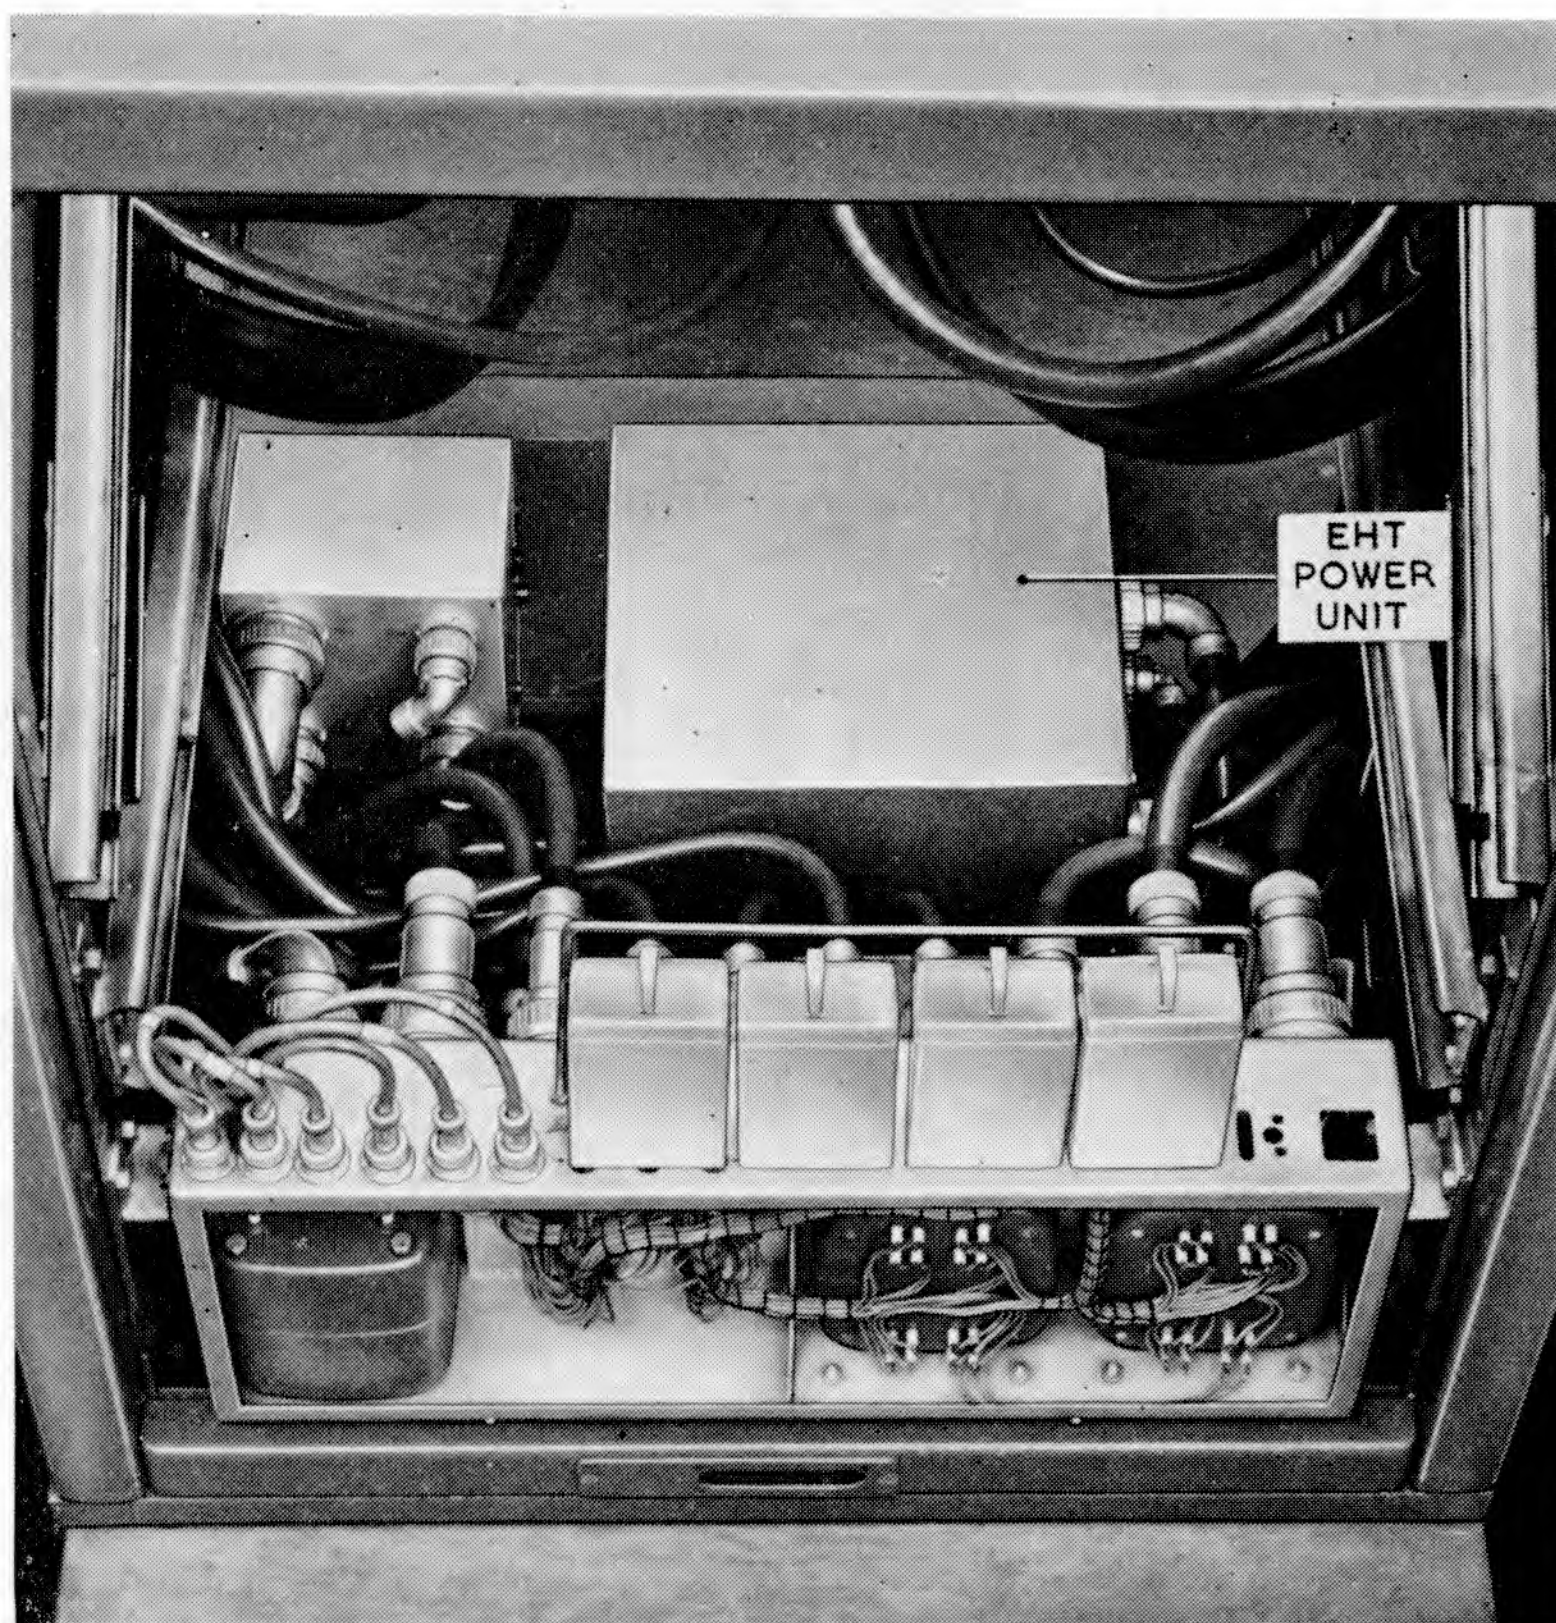
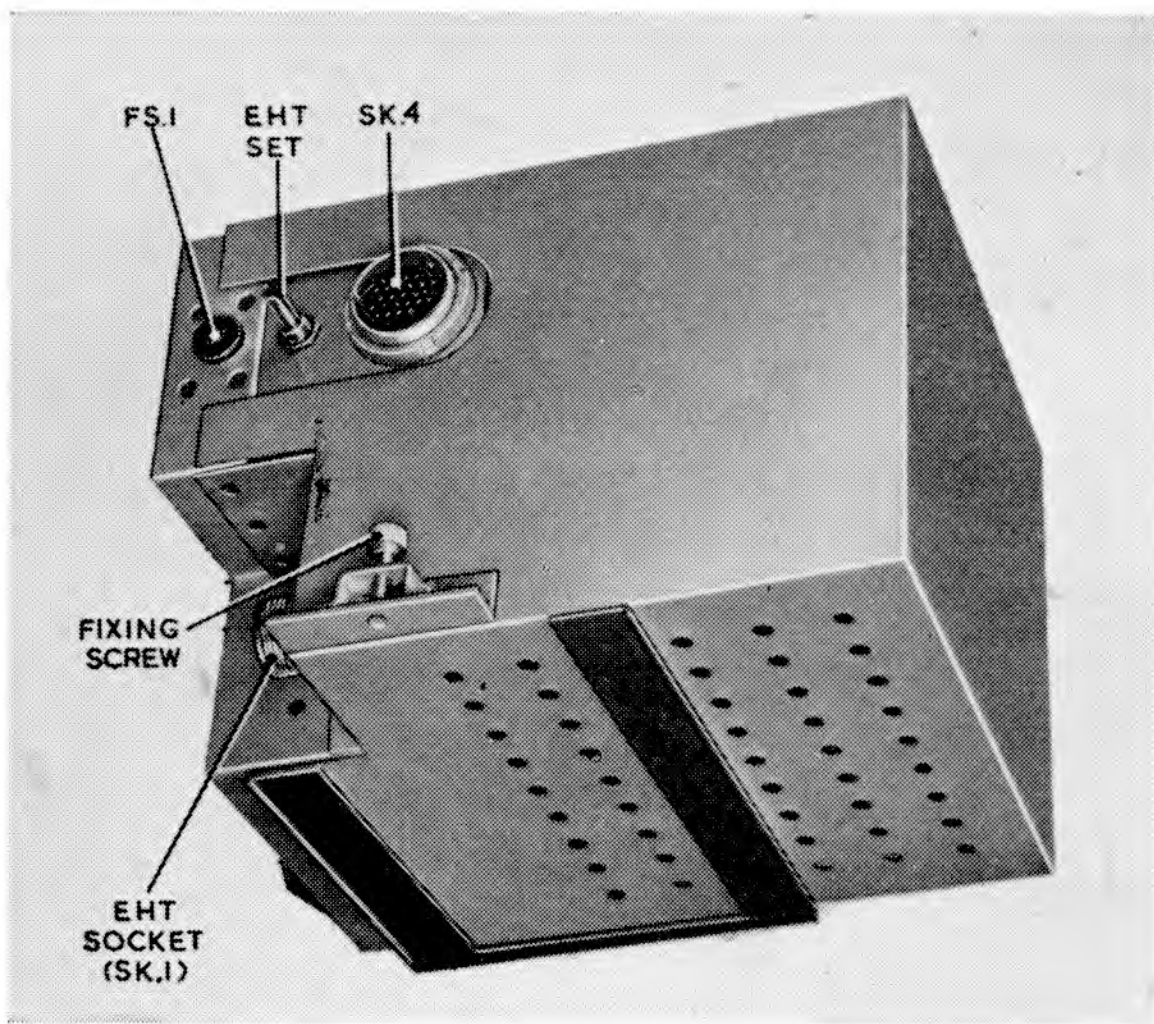
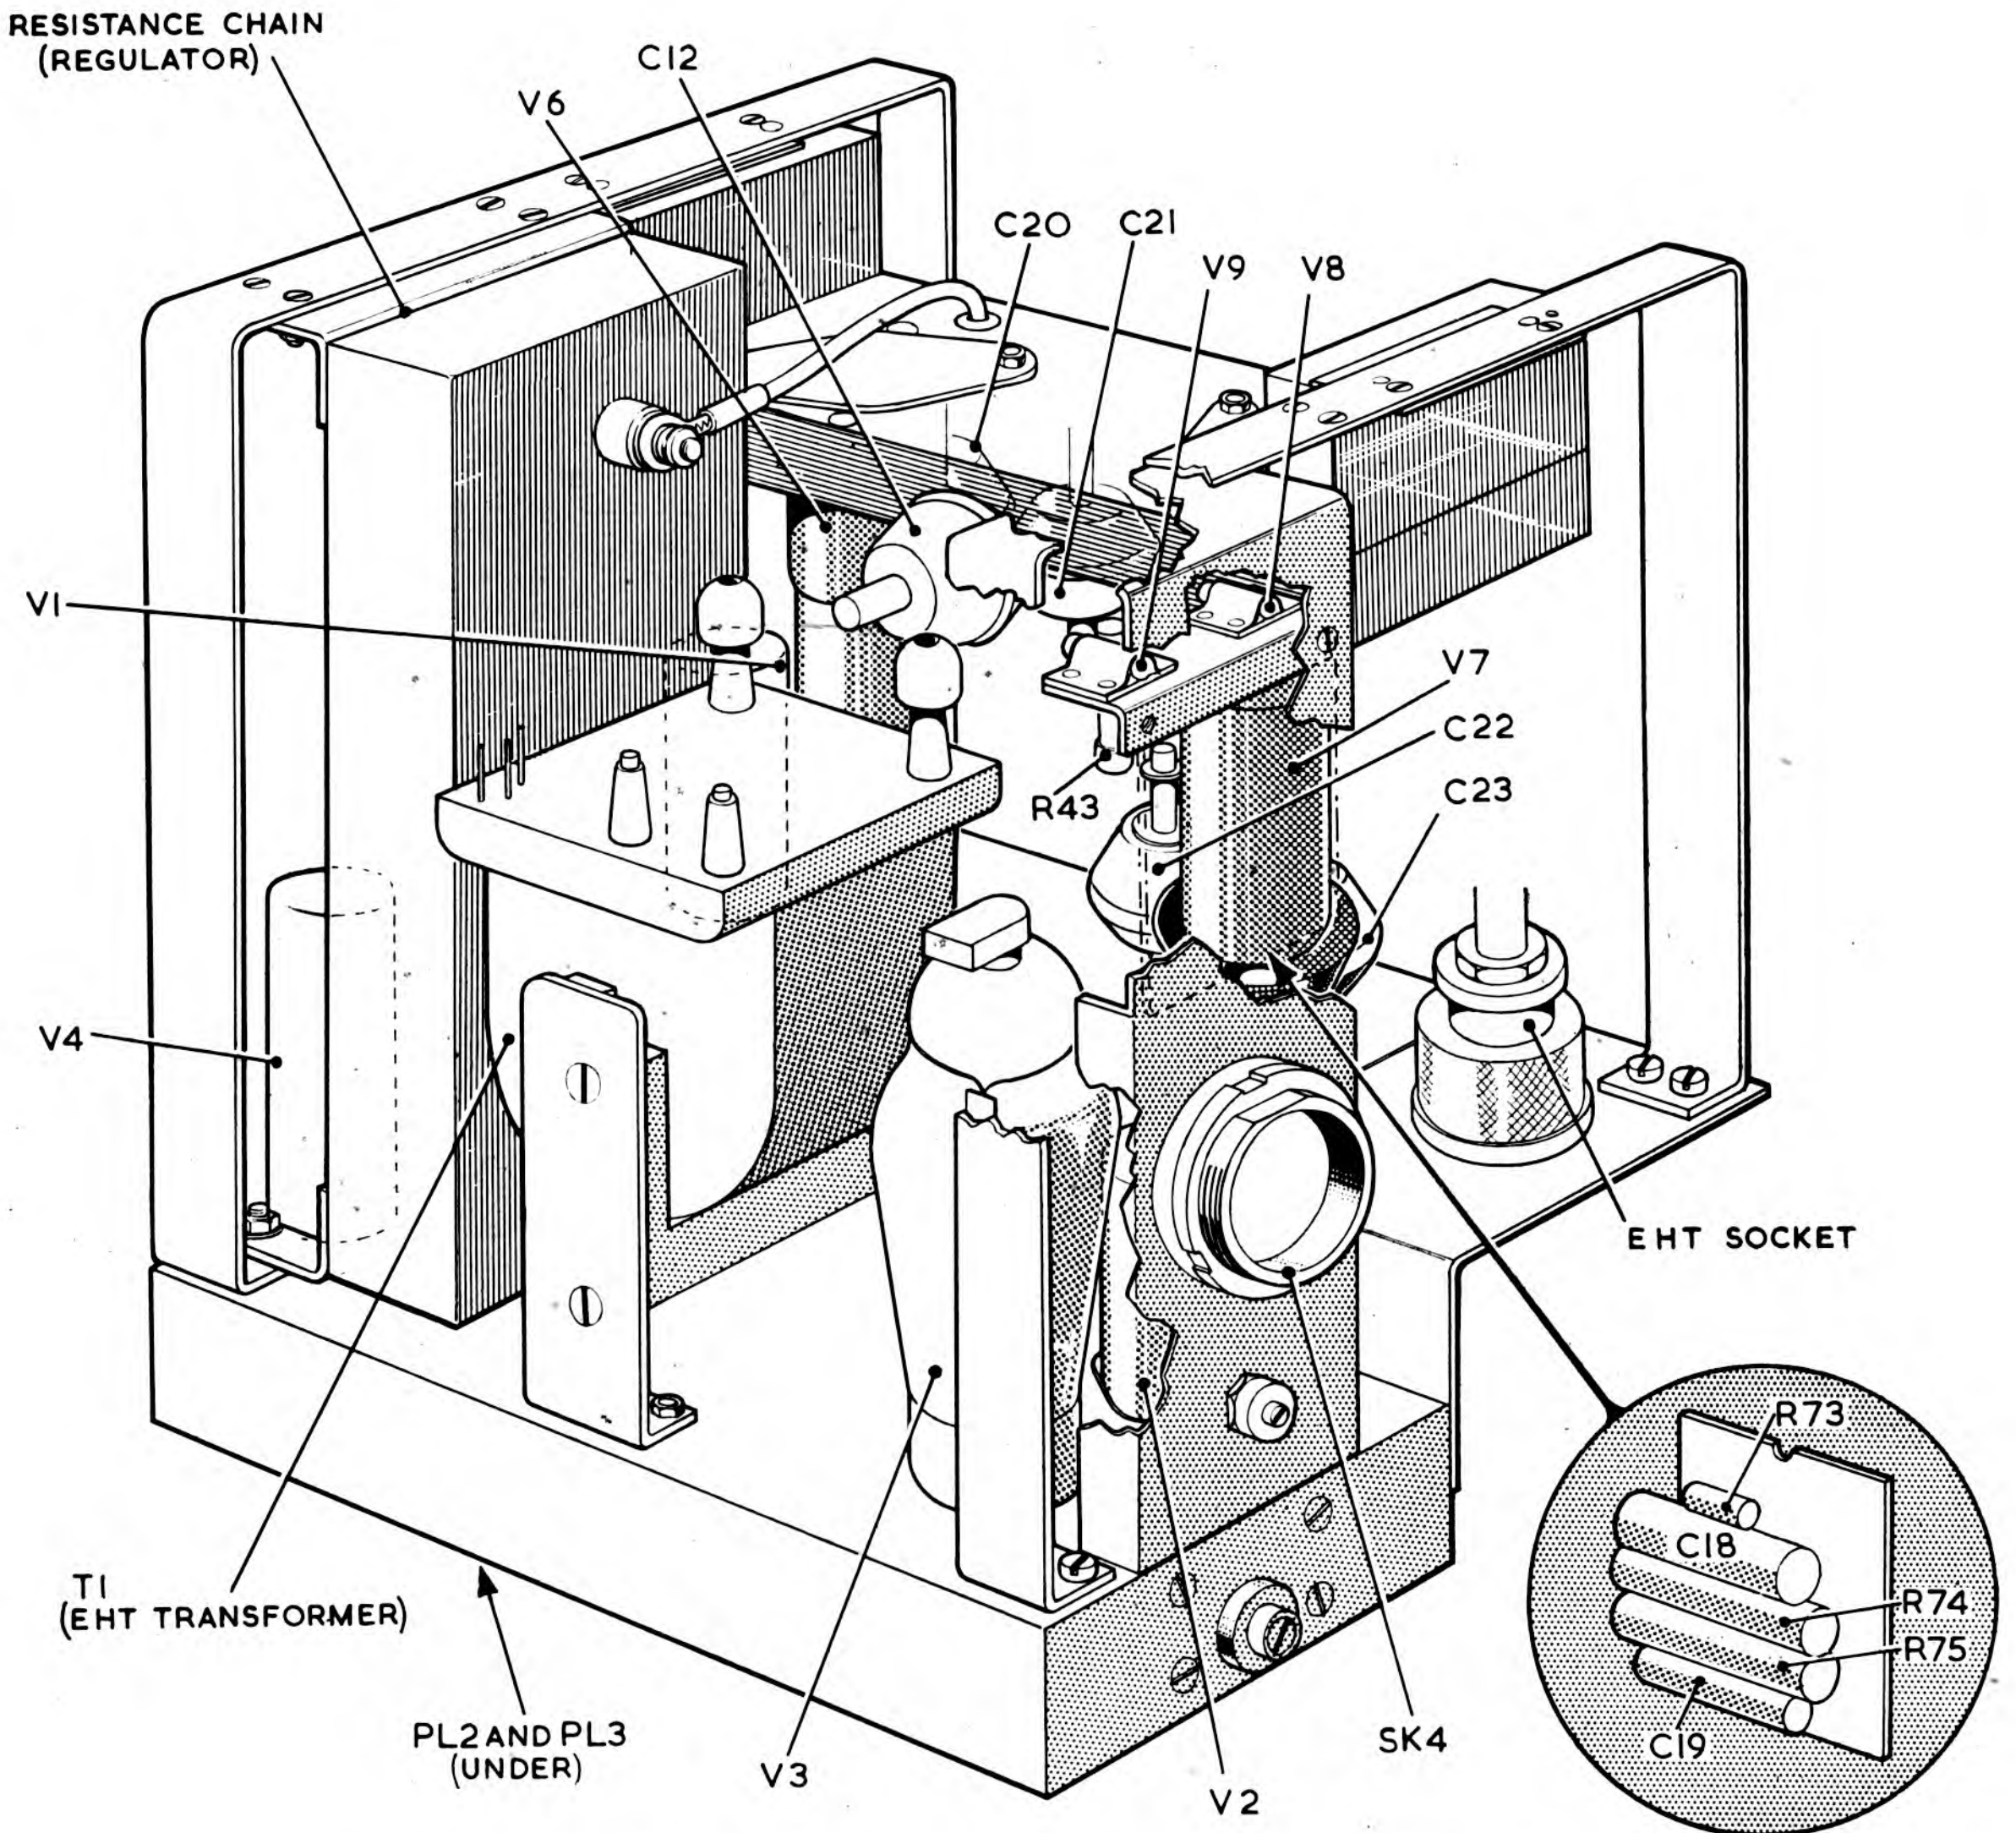

Fig. 1. Console Type 64—rear view
Fig. 2. Power unit (EHT) Type 898 (case on)
Fig. 3. Power unit (EHT) Type 898 (case removed)—general view
1. The power unit (EHT) Type 898 (Stores Ref. 10K/16952) is part of the console Type 64 (fixed-coil PPI display console). It is a wholly enclosed and self-contained unit located at the base of the console near the front, as shown in fig. 1. Fig. 2 is a general view of the unit with the case on; another view with the case off, showing the principal components is given in fig. 3.